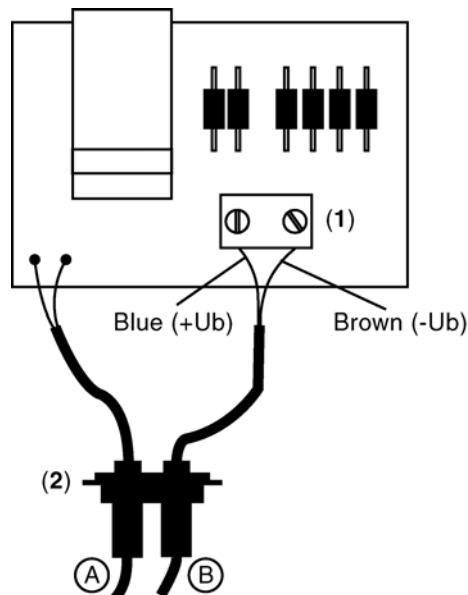

Fig. 2.190 Connecting the battery cable to desktop power adapter LT25W
4. Connect the supplied cable to the terminal (1) as shown in Fig. 2.190
5. Replace the cable feed-through (2) (Fig. 2.190) for a cable with the one supplied for two cables